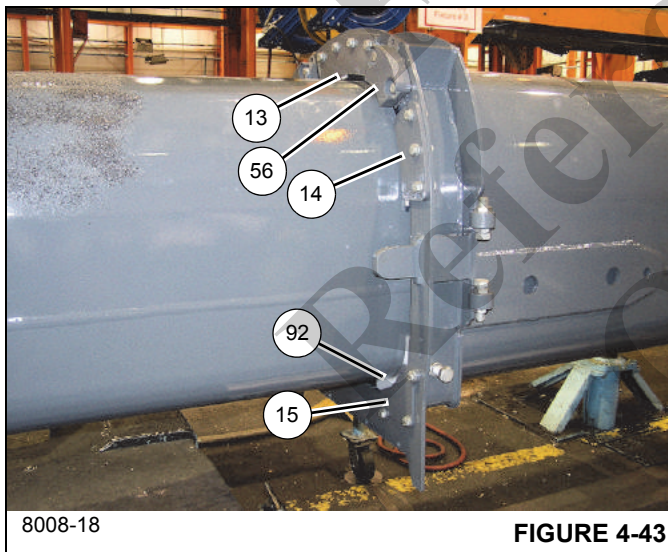
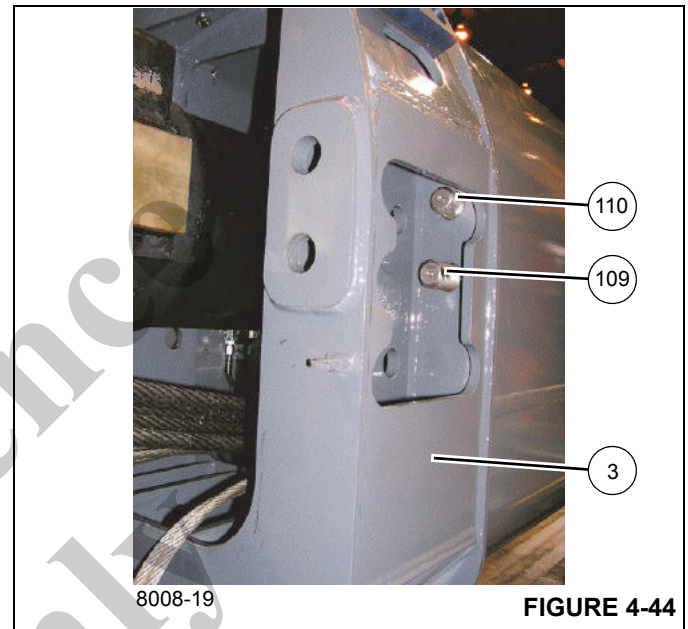

FIGURE 4-43
FIGURE 4-44
61. Align tele 2 and 3 with each other, then partially insert tele 3 (4) into tele 2 (3).
62. Use the shims (70) to adjust the tele 3 rear wear pad assemblies (71, 82) such that the wear pads are within 2 mm (0.08 in) of the sides and the bottom of tele 2. An equal number of shims should be used on each side.
63. Insert tele 3 (4) three-quarters of the way into tele 2 (3).
64. Using an adequate lift and sling, slightly raise the front of tele 3 (4) for the purpose of installing wear pads into the front of tele 2 (3).
65. Install the upper wear pad (92) into the front of tele 2 (3) using the two bolts (27) and nuts (28) (left and right sides); ensure the thin portion of the upper wear pad (92) is oriented to the side of tele 2 (3) (see Figure 4-43).
66. Install the keeper plate (15) to the front of tele 2 (3) using the three bolts (19), six flat washers (16), three lock washers (17), and three nuts (18) (left and right sides) (see Figure 4-43).
67. Lower tele 3 (4) down onto the newly installed wear pads (92).
68. Install the shims (89) and the front lower wear pads (90, 91) into the bottom of tele 2 (3).
69. Install the left, right, and bottom keeper plates (2x-14, 13) to the front of tele 2 (3) using the bolts (19), flat washers (16), lock washers (17), and nuts (18) (see Figure 4-43).
70. Install the stop block (56) to the front of tele 2 (3) using the two bolts (58), four washers (16), two lock washers (17), and two nuts (18) (left and right sides) (see Figure 4-43).
71. Fully insert tele 3 (4) into tele 2 (3), ensuring the telescope cylinder (6) passes through the rear of tele 2 without damaging tele 2 and telescope cylinder.
72. Install the two tele 4 extend cables (109, 110) into the holes in the rear of tele 2 (3) (left and right sides) (see Figure 4-44).